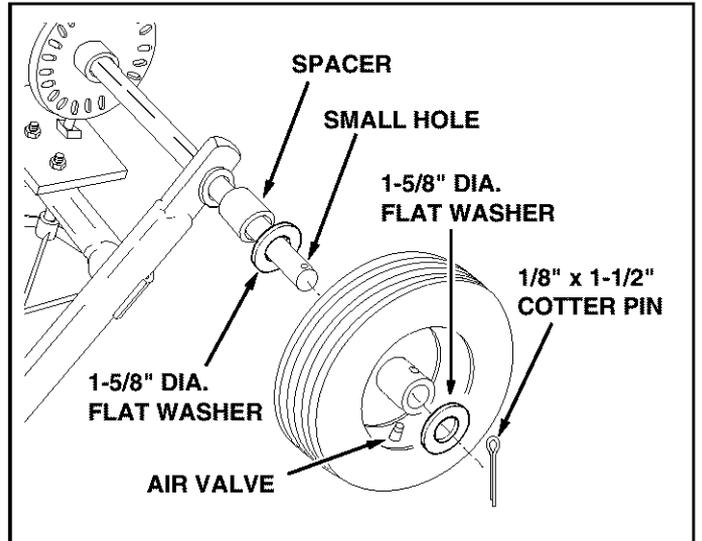

FIGURE 3
- Assemble a spacer and a 1-5/8" flat washer onto the end of the axle that has the small hole. See figure 3.
- Place a wheel (air valve facing out) and then one or two 1-5/8" flat washers onto the axle. Install the 1/8" x 1-1/2" cotter pin into the axle. The wheel must spin freely. See figure 3.